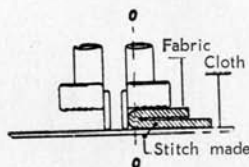

Fig. 29
This scrap of fabric is to be folded until outer edge of fold is against the outer part of left plate. Naturally, the fabric can also be folded to the right and in this case it will have to be set against outer part of right plate (fig. 29).
- 13) Make a new fold in fabric at the distance you wish from first seam, slightly pulling threads if necessary; the new fold of fabric should touch lightly right plate — if you have started on the right (fig. 29).